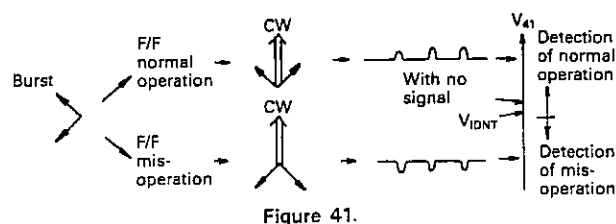

Figure 41.
The output signal of the flip-flop circuit is reversed in phase every 1H so that the burst signal's phase is also reversed every 1H. The burst signal is then multiplied by -45° CW and the resultant signal is subjected to a sample/hold operation by the capacitor in connection with pin ④. The voltage as a result of the sample/hold operation is compared with the reference voltage which is slightly lower than DC voltage (V_{IDENT}) equivalent to the multiplied output under no signal condition. In case of erroneous circuitry operations, the voltage of pin ④ becomes lower than the value of V_{IDENT} and the flip-flop circuit is temporarily put in a stop while the chroma amplifier experiences a killer operation. Fig. 41 shows the principle of these operations.